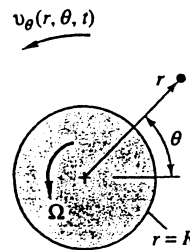

Fig. P4.82
**4.82** A solid circular cylinder of radius  $R$  rotates at angular velocity  $\Omega$  in a viscous incompressible fluid which is at rest far from the cylinder, as in Fig. P4.82. Make simplifying assumptions and derive the governing differential equation and boundary conditions for the velocity field  $v_\theta$  in the fluid. Do not solve unless you are obsessed with this problem. What is the steady-state flow field for this problem?